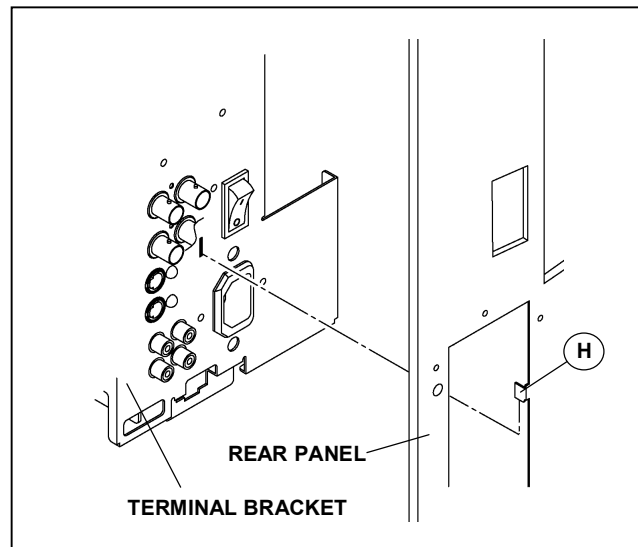

Fig.1
1. Remove the 8 screws marked (B) .
2. Remove the screw marked (C) attached the FBT.
3. Remove the screw marked (D) attached the SIGNAL PWB with the terminal bracket.
4. Remove the 5 screws marked (E) attached the terminals with the terminal bracket.
5. Remove the screw marked (F) attached the terminal bracket with the chassis base.
6. Remove the 2 hexagonal screws marked (G) attached the D-SUB terminal with the terminal bracket.
7. As shown in Fig.1, lift the rear panel and remove the claw marked (H) from the terminal bracket.
- 2) The SET-UP MENU screen (Fig. 1) will be displayed.